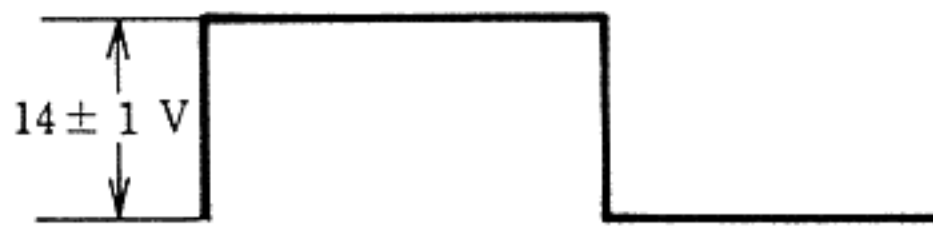

Fig. 5
b. When LFO/NORMAL switch on TRIGGER is turned to LFO (0V at terminal N (4-2) and the key is turned ON (-7V is applied to terminal KTR (4-3)), the waveform shown in Fig. 5 should be obtained at terminal O  $\sqcap$  (3-10) and its frequency should be one half (cycle time is two times that of LFO oscillator.)